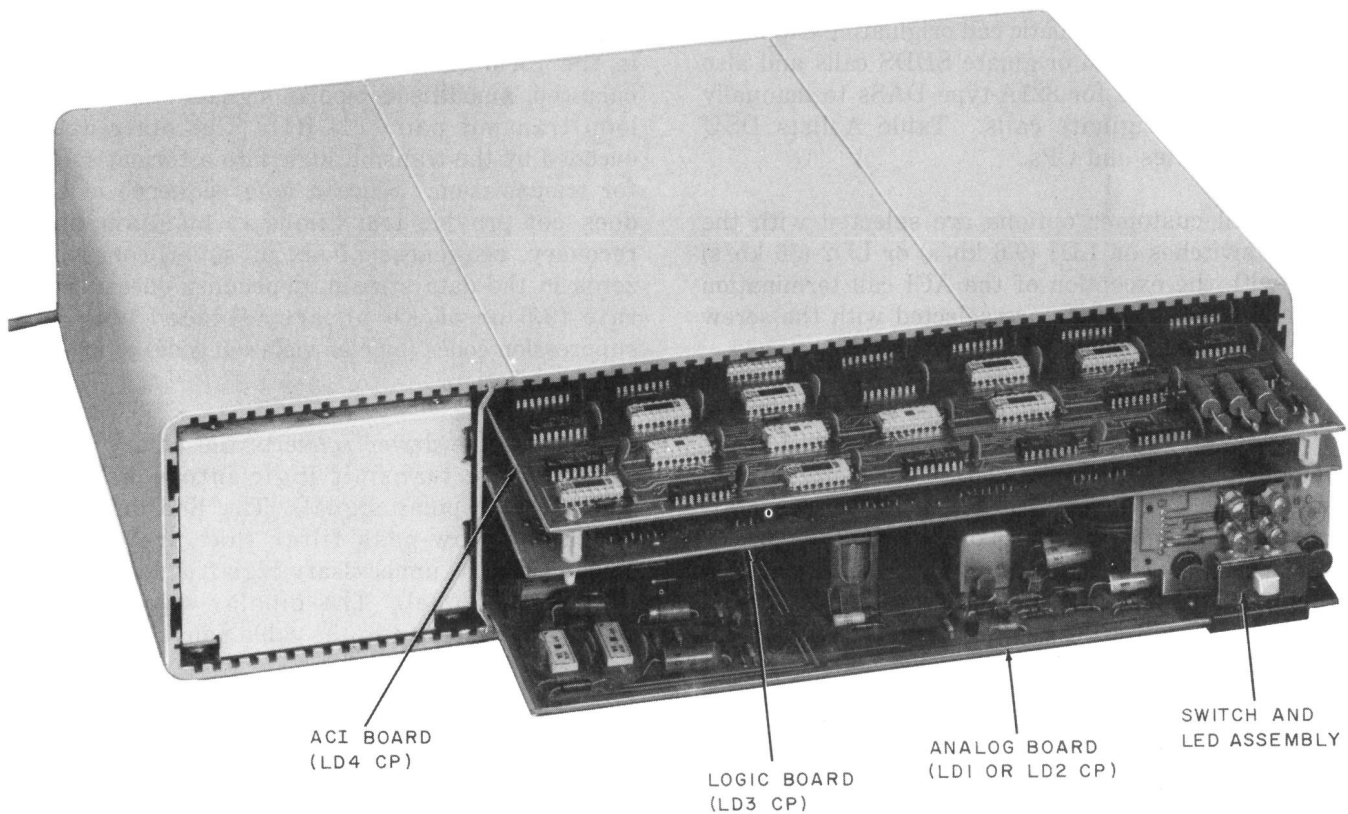

Fig. 2—501A-Type DSU—Front Internal View
**2.06** The 501A-type DSUs are equipped with one logic board CP and one analog board CP and, optionally, an ACI CP as shown in Fig. 2. LD3 CP performs the DSU logic functions and is common to all the DSUs. LD1 (9.6 kb/s) and LD2 (56 kb/s) are the analog boards and they